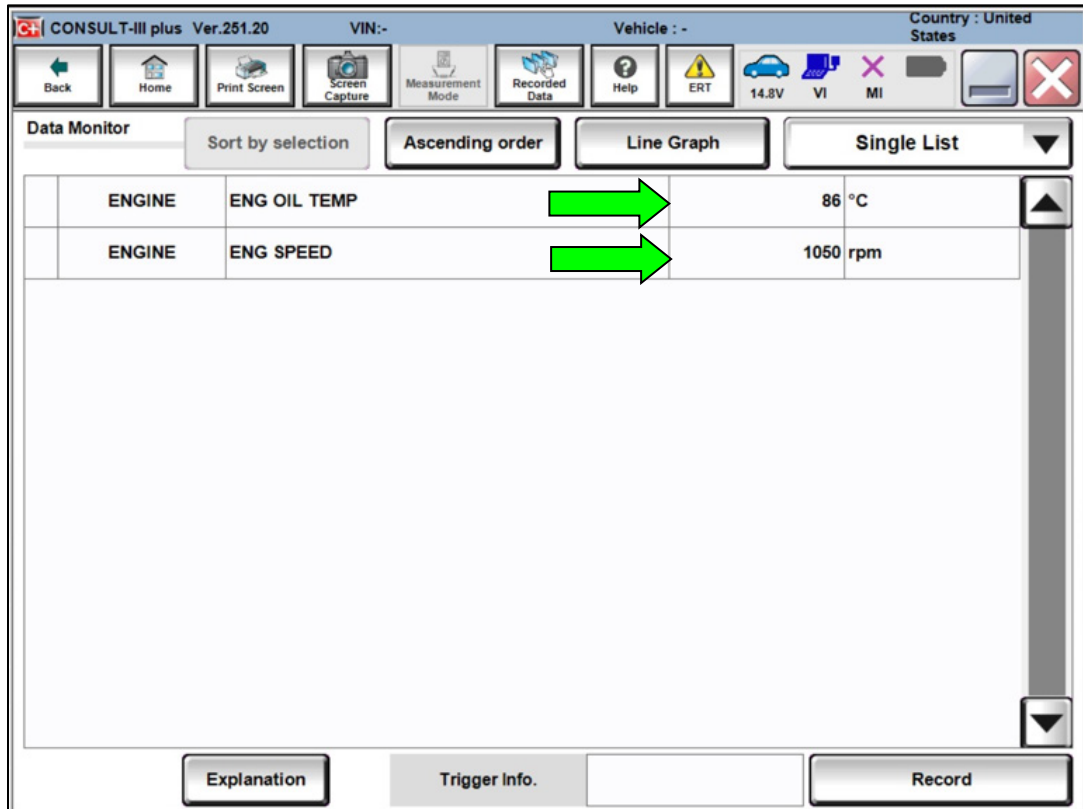

Figure 9
**HINT:** Engine Data Monitor is shown in Figure 9.